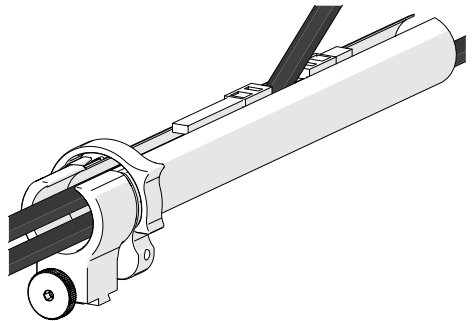

Fig. 106 - Flexibility
4. When necessary, the two zippers may be opened to allow cables to exit the tube anywhere between the ends (*Fig. 106*).